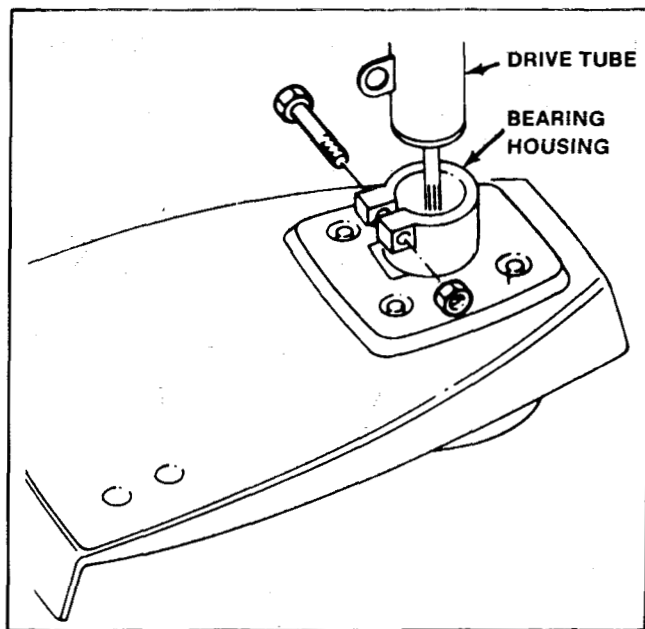

Figure 104
2. Remove the locknut and the machine screw from the bearing housing. See Fig. 104.